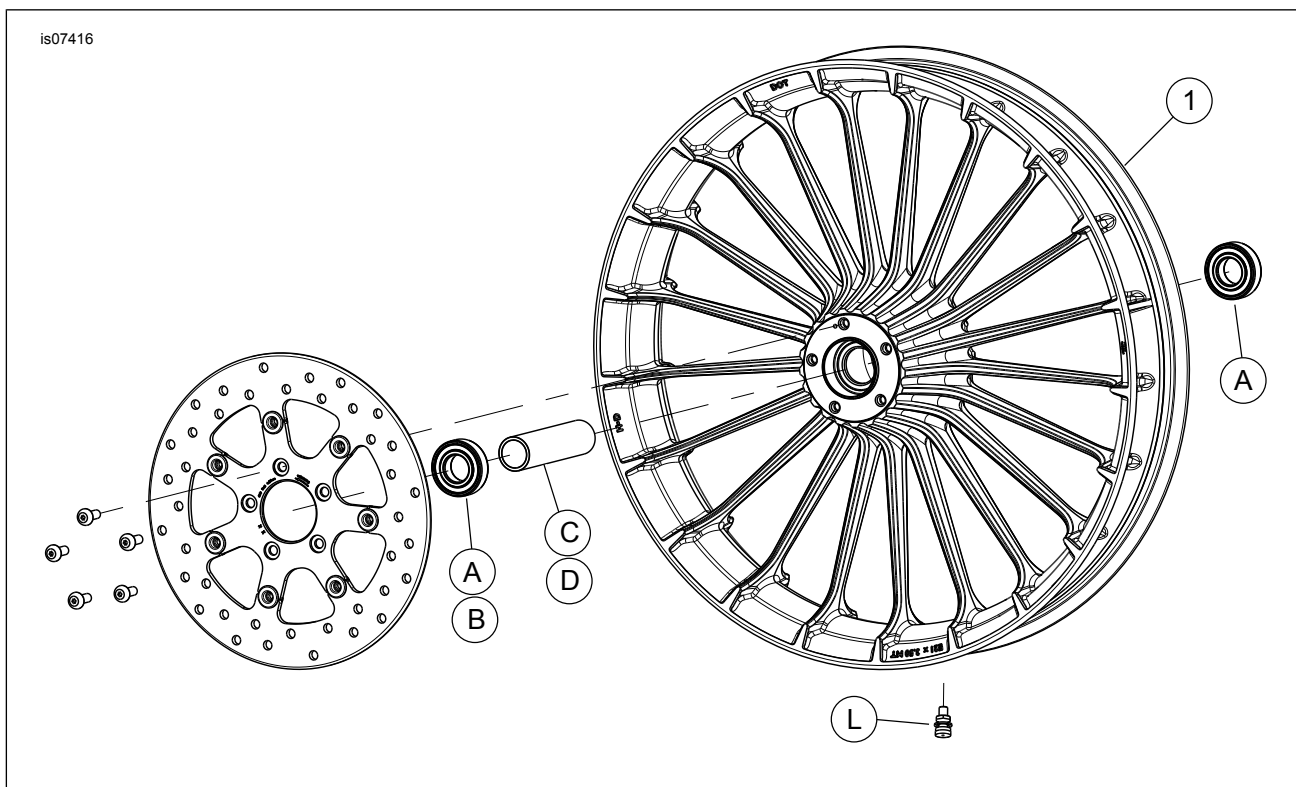

Figure 2. Service Parts: Front Turbine Wheel
This kit includes the custom wheel only. Refer to Figure 2. and Table 2
2. See Figure 2. Install valve stem assembly (L) on wheel. See service manual.
5. Install front wheel (1), stock axle and stock axle nut. See service manual.